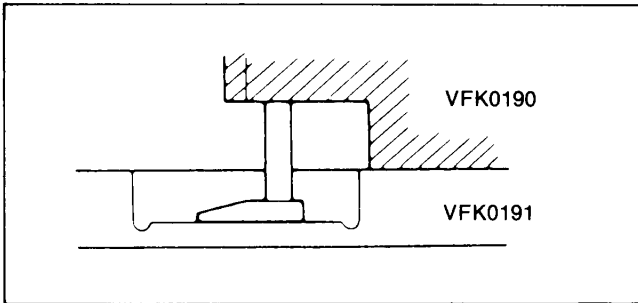

Figure M30
3. Place the Reel Table Height Gauge on the plate so that the scraper of the gauge touches the cut-out portion of the plate, then set the gauge to zero 0 as shown in Figure M30.
4. Measure the height of the top surface of either Reel Table and note the difference in height from the plate cut-out. (Figure M30 and M31) Repeat this procedures for the other Reel Table.